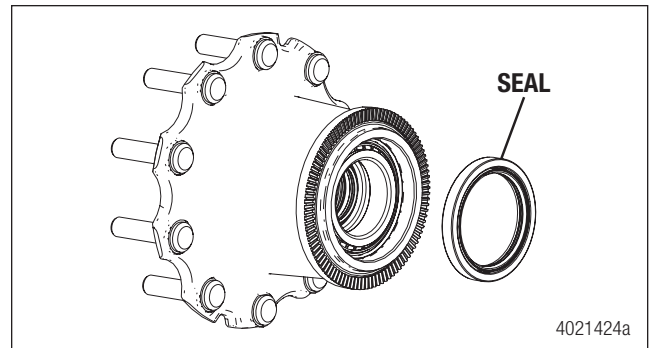

Figure 5.15
2. Remove the oil seal from the hub with a suitable tool. Discard the oil seal. Figure 5.15.